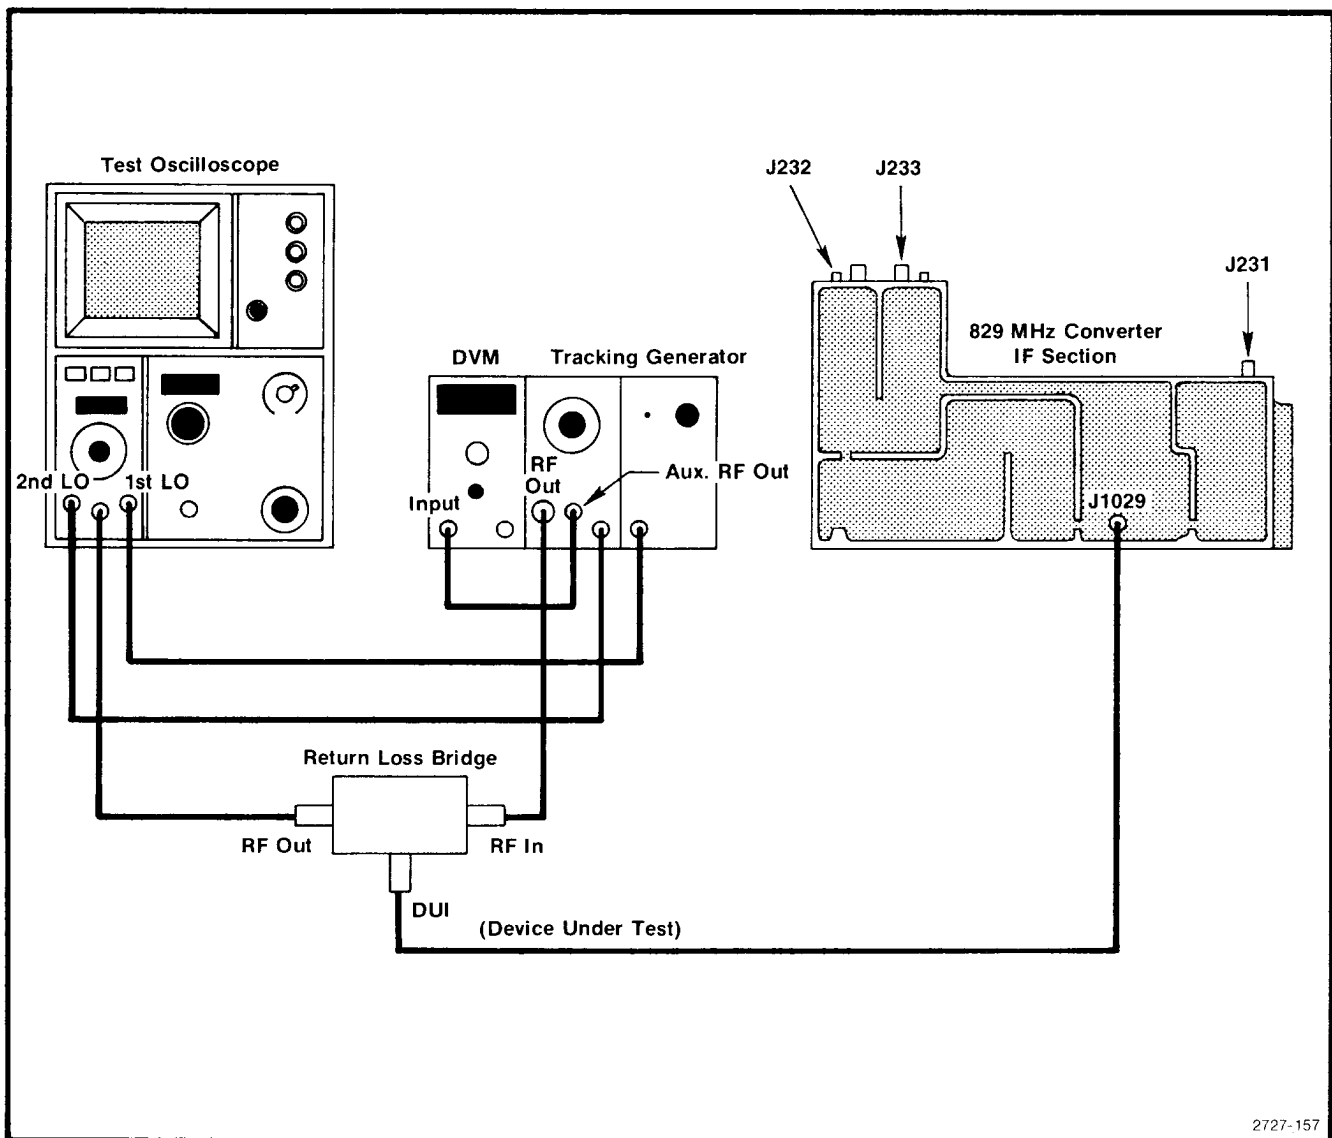

Fig. 4-14. Test equipment setup for aligning the 829 MHz filter.
c. Connect the spectrum analyzer, tracking generator, and frequency counter together as a system, with the frequency counter connected to the Auxiliary RF Output of the tracking generator (see Fig. 4-14).
d. Connect the spectrum analyzer/tracking generator system through the return loss bridge to the Peltola jack (J1029) on the 829 MHz amplifier board (see Fig. 4-14). Reconnect P235 (100 MHz reference signal) and P237 (2182 MHz input) to the LO section of the converter.